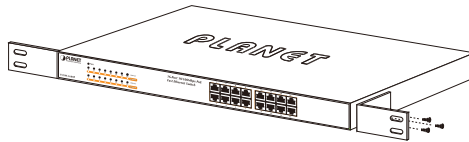

Figure 3-2: Attaching the Brackets to the 802.3at PoE+ Ethernet Switch.
- Step2:** Attach a rack-mount bracket to each side of the 802.3at PoE+ Ethernet Switch with supplied screws attached to the package. Figure 3-2 shows how to attach brackets to one side of the 802.3at PoE+ Ethernet Switch.